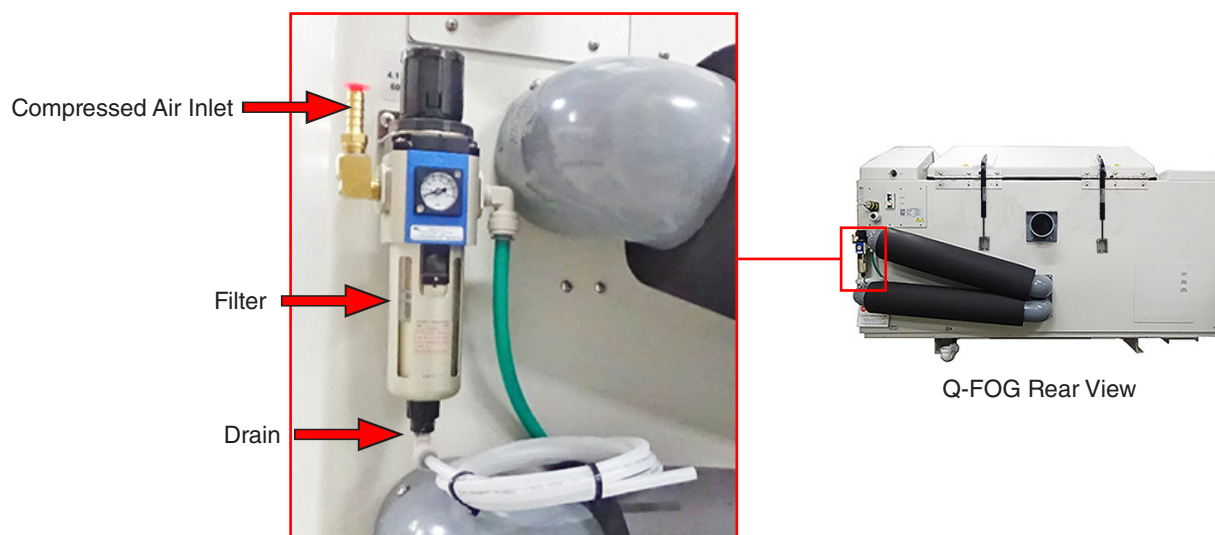

Figure 6.5a: Compressed air inlet and moisture filter.
- Compressed air must be supplied to the Q-FOG via an inlet at the rear of the cabinet (Figure 6.5a).